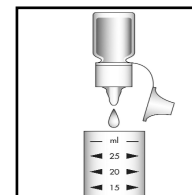

Figure 2
2. Add 8 drops of A-9900 Indicator Solution (fig 2) to the cup. Stir to mix the contents of the cup.